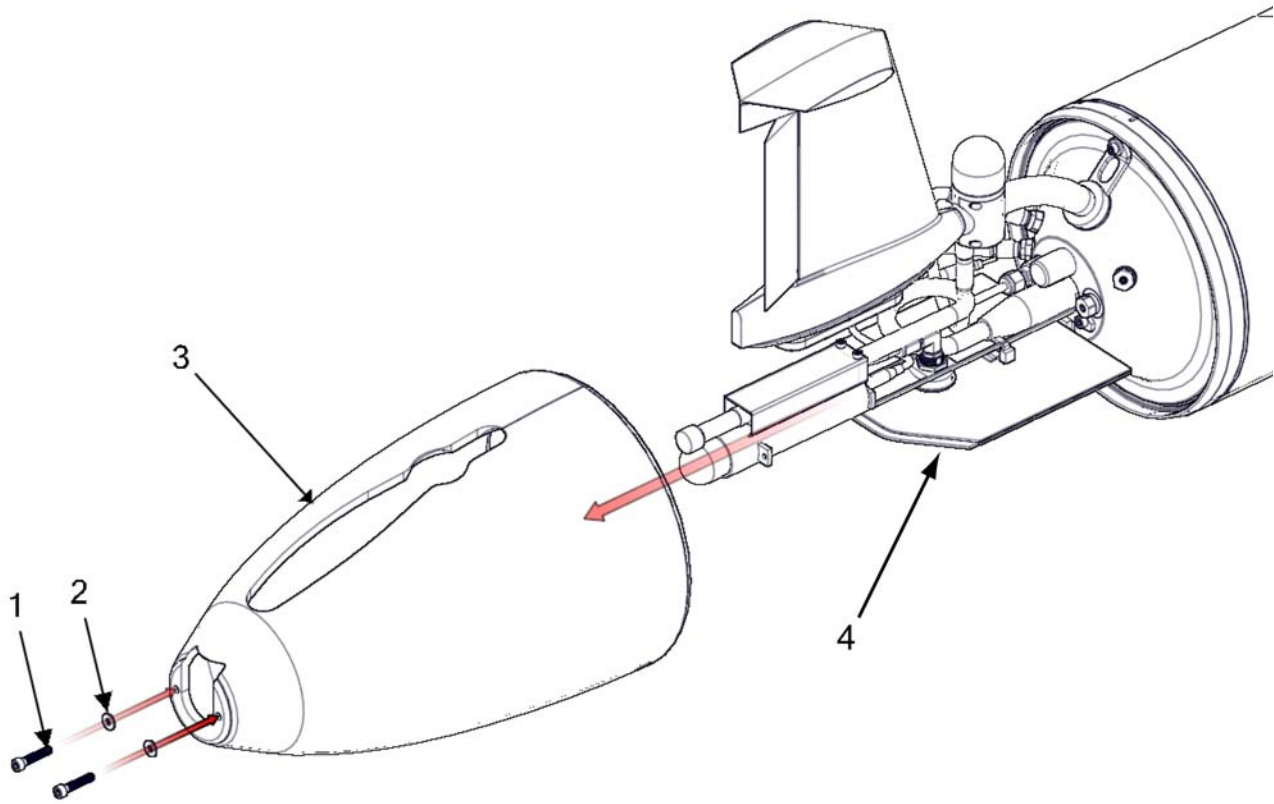

Figure 2-25 Aft cover.
1. The glider should be powered down before removing the aft cover (Figure 2-25, Item 3).
3. The air bladder (Figure 2-25, Item 4) must be deflated in order to remove the aft cover (Figure 2-25, Item 3). To deflate the air bladder, type `put c_air_pump 0` from `lab_mode` or `GliderDOS`.
4. Remove the two 10-32 SHCSs (Figure 2-25, Item 1) and washers (Figure 2-25, Item 2) that hold the aft cover (Figure 2-25, Item 3) in place.
5. Pull the aft cover (Figure 2-25, Item 3) back, gently separating it at the top to allow it to slide over the antenna tail fin.
1. Slide the aft cover (Figure 2-25, Item 3) forward, gently separating it at the top to allow it to slide over the antenna tail fin.
2. Insert the two 10-32 SHCS (Figure 2-25, Item 1) and washers (Figure 2-25, Item 2) that hold the aft cover (Figure 2-25, Item 3) in place.